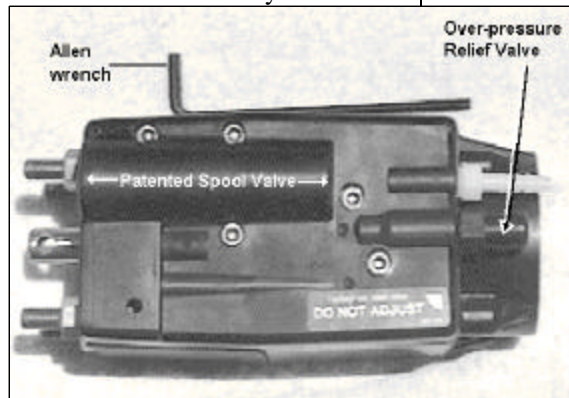

Figure A-6: Manifold top showing five fasteners
Remove the remaining five manifold fasteners with the 5/32" allen wrench. See *Figure A-6* for their locations.
Take a few minutes to study the manifold (see *Figures A-6 & A-7*). It has three basic components: (1) the main body, which is made of black plastic and has hydraulic passages molded into it, (2) the over-pressure relief valve mechanism, and (3) a patented hydraulic spool valve embedded within the main body.